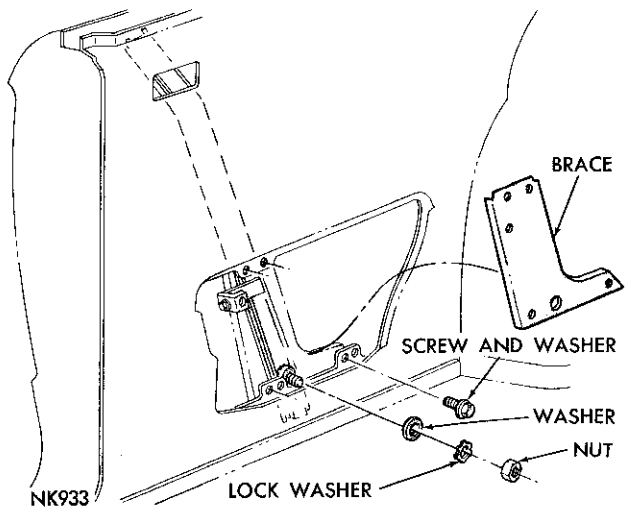

Fig. 100—Quarter Window Front Track Brace (Chrysler—Hard Top)
- (3) Remove the nut and washers attaching the track brace to the stud on the track (Fig. 100) and the screw and washer assemblies attaching the brace to the inside panel.
- (4) Remove the track roller assembly from the slot in the glass lower frame.
- (5) Slide the track assembly down off of the roller assembly on the glass lower frame and out through the large access opening in the quarter panel.
- (6) Remove the track support assembly.